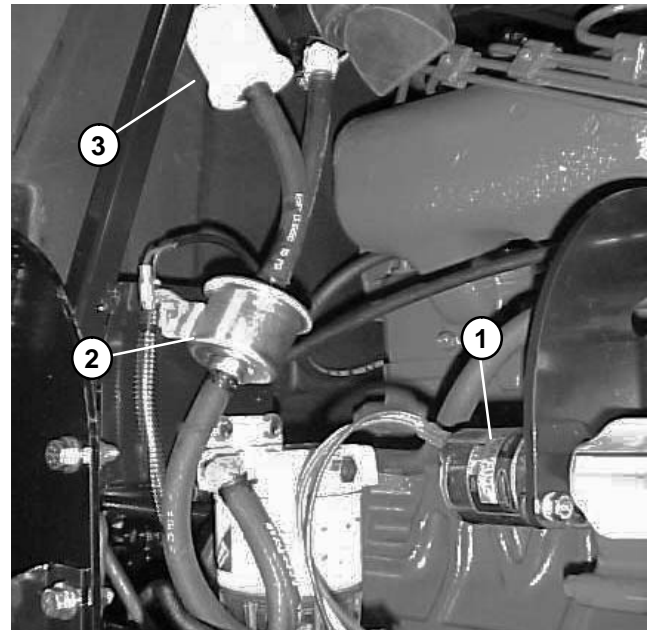

Figure 13
- B. The engine run solenoid and fuel pump (Fig. 13).